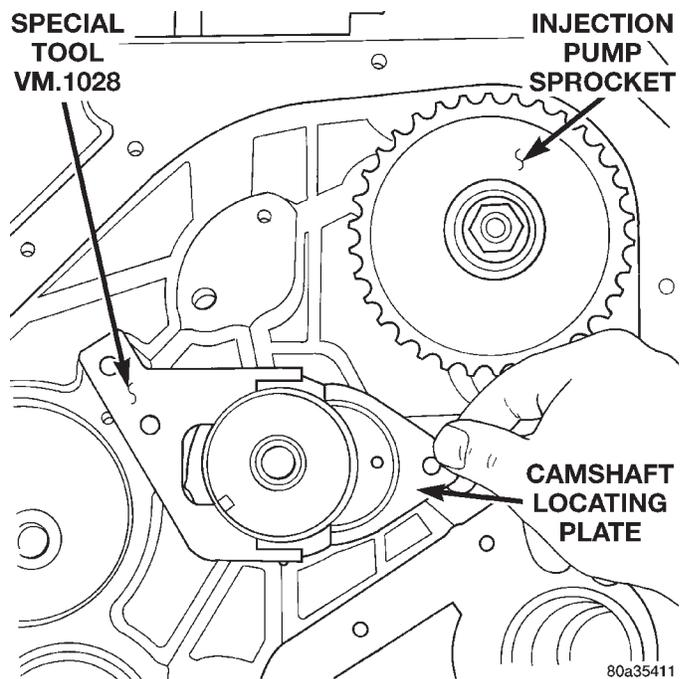

Fig. 51 Locating Plate Alignment
- (1) Coat the camshaft journals with clean engine oil and carefully install the camshaft.
- (2) Install camshaft locating plate alignment tool on block then install locating plate (Fig. 51).